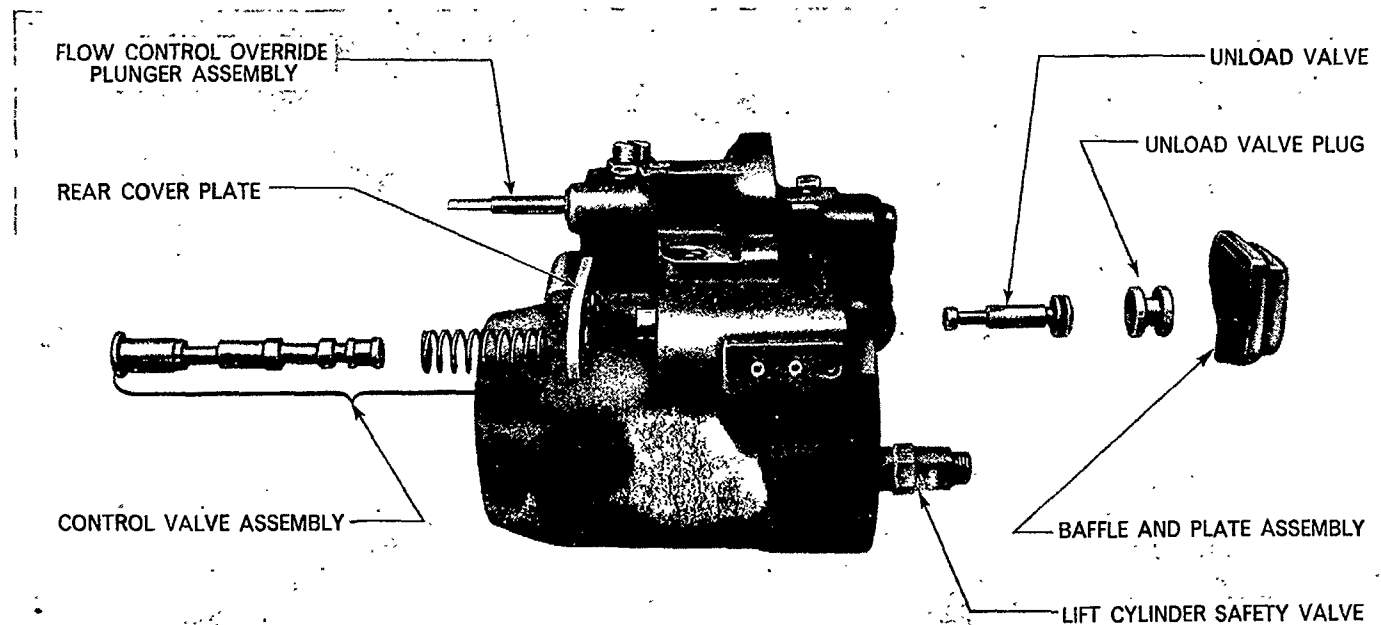

Figure 63
3. Remove the two bolts securing the control valve rear cover plate, Figure 63, to the lift cylinder. Lift out the plate, control valve and control valve spring, taking care to avoid damaging the lands of the valve.
4. Remove the two bolts securing the control valve baffle and plate, Figure 63. Remove the baffle plate.